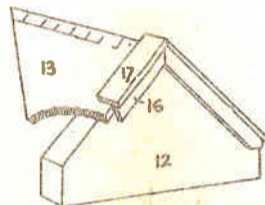
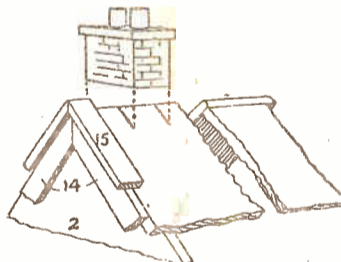
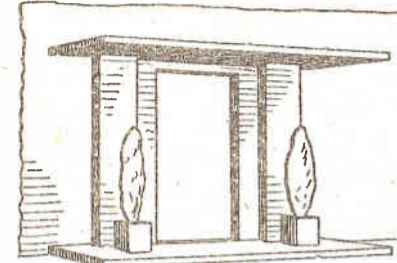

Fig. 3—Details of the gable roof slopes and the gable boards
Fig. 4—How the ends of the house are finished and the chimney pots fixed
Fig. 5—The doorstep, hood and piers shown in place
cut out and assembled, being butted together in a similar manner to the roof itself. A detail of this part of the assembly is clearly shown in Fig. 3.
Next cut out and glue and pin the gable boards (14 and 15) in place as in Fig. 4 and the pieces 16 and 17, as shown in Fig. 3. Piece No. 18, which is the decorative strip running along the front of the house, is the next to be cut out and assembled. Fix this to the top edge of the front (9) where it will serve to hide the join when the front of the house is closed. The piece No. 19 fits on the gable piece of the front and serves the same purpose as piece 18. Now cut the two pieces 20 which form the front door step and the hood of the front door. These, together with the two piers (21) are assembled on the front as shown in Fig. 5. Glue and pins should be used to make a firm job.
cost. The decorative strips (18 and 19) should be painted red or covered with red paper, and there should be a red strip round the house covering the division between the brick and plain cream surface of the walls. Fitting the chimneys is a simple operation, and the method will be seen from Fig. 4. Equally simple is the job of fitting the pressed metal windows and doors.